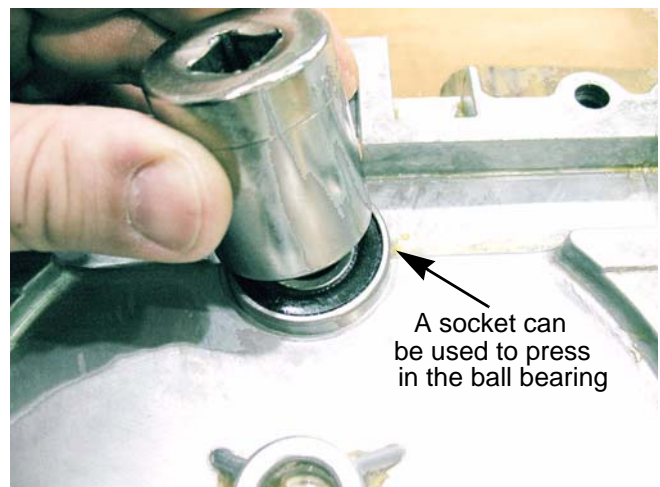

Figure 6.61
19. Press the lower ball bearing into the upper housing. See Figure 6.61.